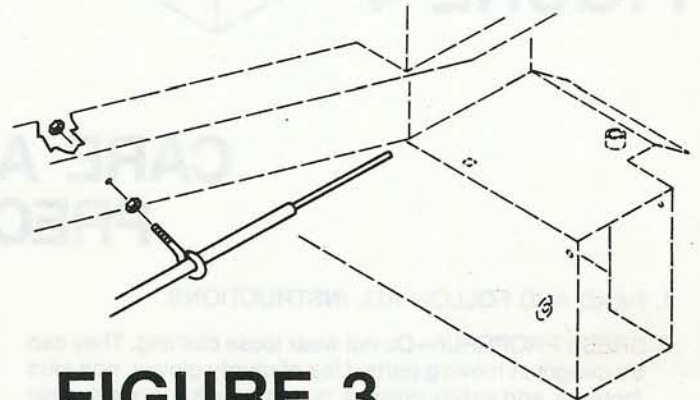

FIGURE 3
7. Attach the control cable to the blower frame. Slide the 1/4—20 x 2 eye bolt onto the cable and secure the eye bolt to the frame with (2) 1/4—20 hex nuts. Tighten securely. As shown in FIG. 3.